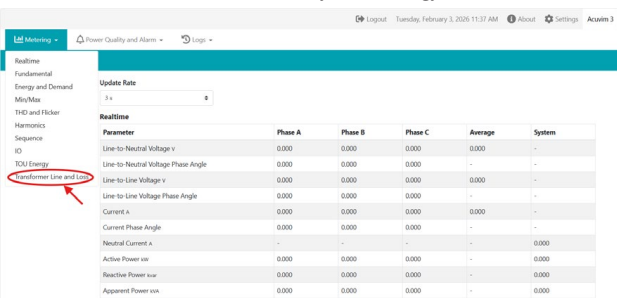

Figure 15 Navigating to Transformer Line and Loss Webpage #3
3. Click on the **Transformer Line and Loss** option as depicted in Figure 15. This webpage, shown in Figure 16, presents a breakdown of model-derived power and energy components related to transformer and line loss compensation, providing transparency into how the configured electrical model contributes to the adjusted energy reference.